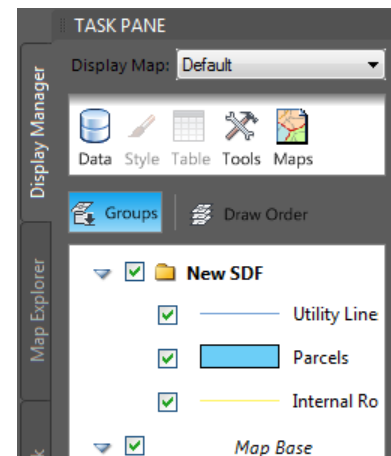

Figure 2-40 Partial view of the *Display Manager* tab in the *TASK PANE*
6. Next, select the **Schema1** check box in this page and then choose the **Add to Map** button; the **New SDF file** is displayed in the drawing window. Figure 2-40 shows the **Display Manager** tab of the **TASK PANE** with the SDF data file. Next, close the **DATA CONNECT** wizard.